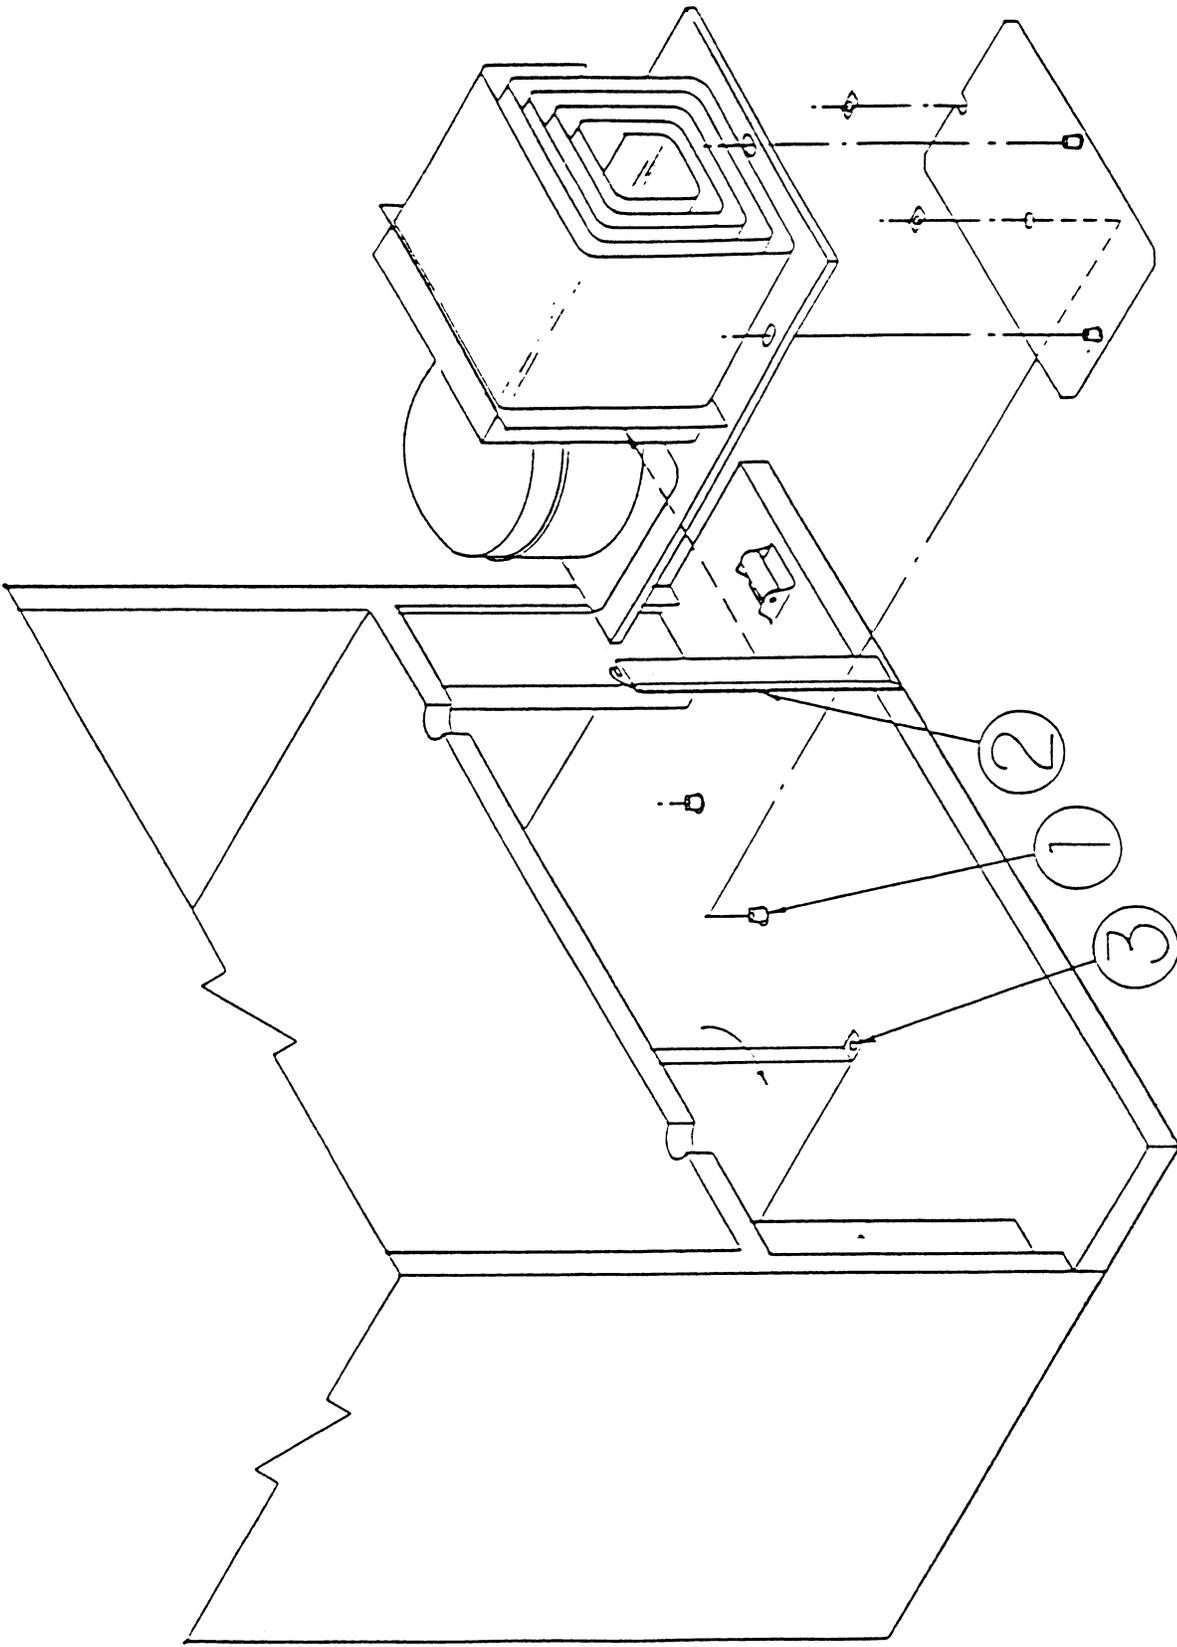

Figure 5
- b. Push a stud receiver clip (900,902,19x.x1) on each of the projection weld nuts. See item 1, figure 5, page 8.
5. If vender was built in Ranson with metal baffles, push fan shroud adapter seal (901,806,91x.x1) on to left edge of condenser fan shroud. See item 2, figure 5, page 8.
7. On Ranson built venders with metal baffles, remove the front screw holding the left hand baffle in place. See item 3, figure 5, page 8.